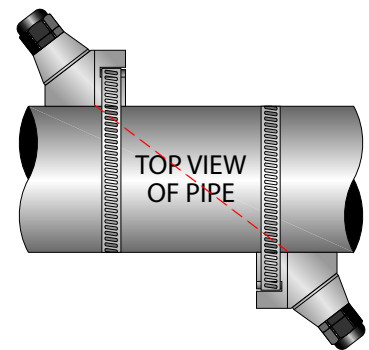

Figure 24: Z-Mount transducer placement
The DTTR, DTTN, DTTM and DTTL transducers must be properly oriented and spaced on the pipe to provide optimum reliability and performance. On horizontal pipes, when Z-Mount is required, the transducers should be mounted 180 radial degrees from one another and at least 45 degrees from the top-dead-center and bottom-dead-center of the pipe. See Figure 24 on page 25. Also see "Z-Mount Installation" on page 24. On vertical pipes the orientation is not critical.
7. Place the downstream transducer on the pipe at the calculated transducer spacing. See Figure 24. Using firm hand pressure, slowly move the transducer both towards and away from the upstream transducer while observing signal strength. Clamp the transducer at the position where the highest signal strength is observed. A signal strength percentage between 10...98 is acceptable.